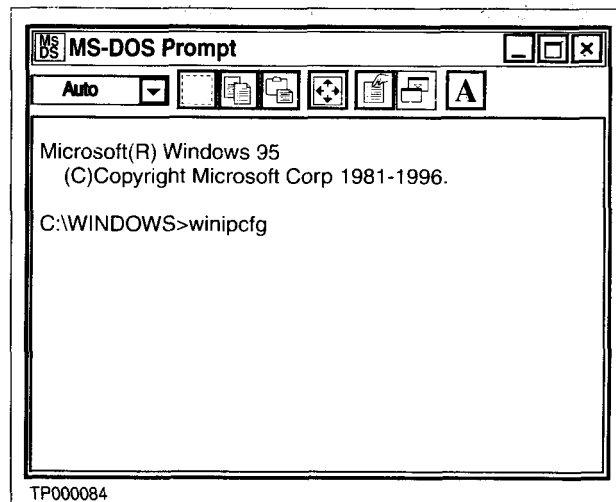

Figure 3
4. Set the Ethernet (IP) Address between the ASIST PC and CONSULT-II as follows:
B. When the MS-DOS Prompt window appears, after C:\WINDOWS> type: **winipcfg** (see Figure 3).